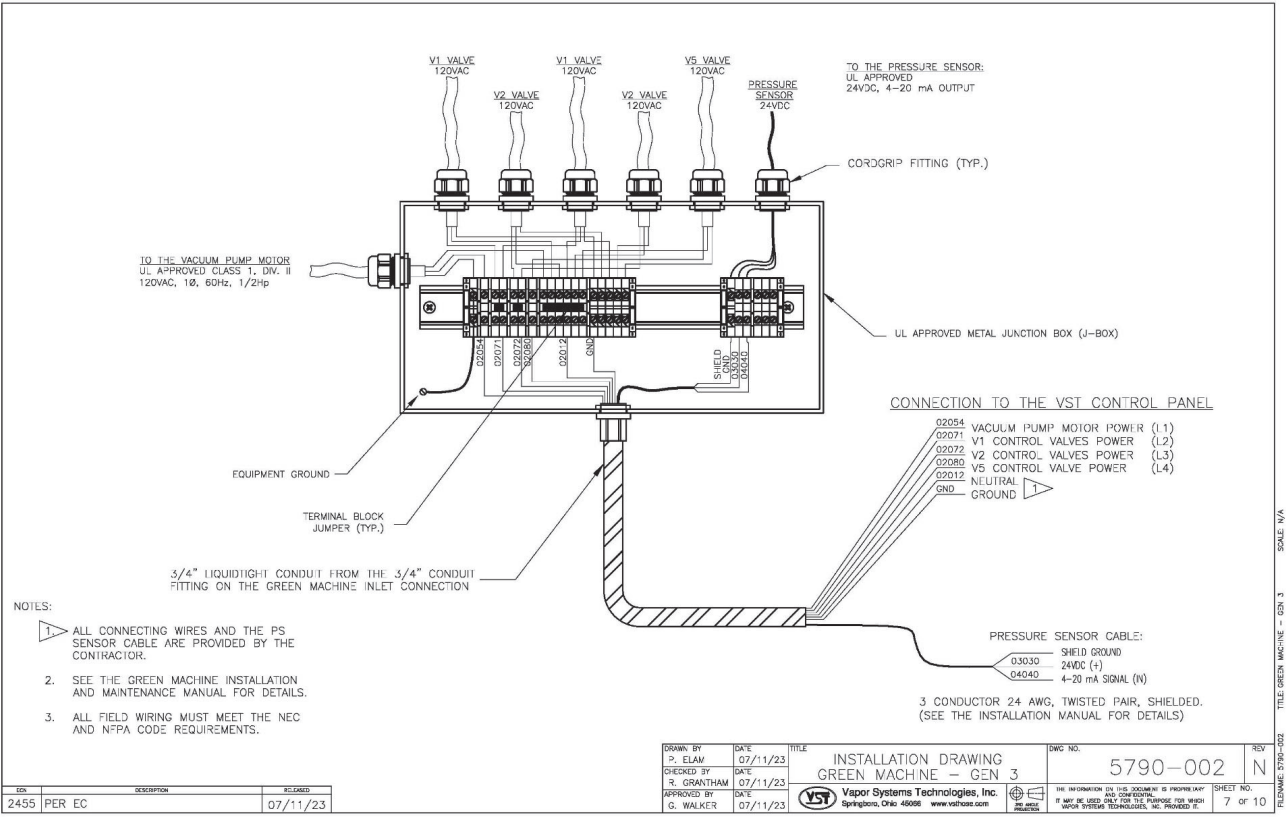

Figure 9-5: Wiring the Pressure Sensor Inside the Internal Junction Box
- **See Figure 9-5 and 9-6.**
6. Disconnect the 3 Pressure Sensor wires from the terminal block inside the Internal Junction Box. **See Figure 9-5.**
2. Connect the Pressure Sensor wires to the terminal blocks inside the Internal Junction Box. **See Figure 9-5.**